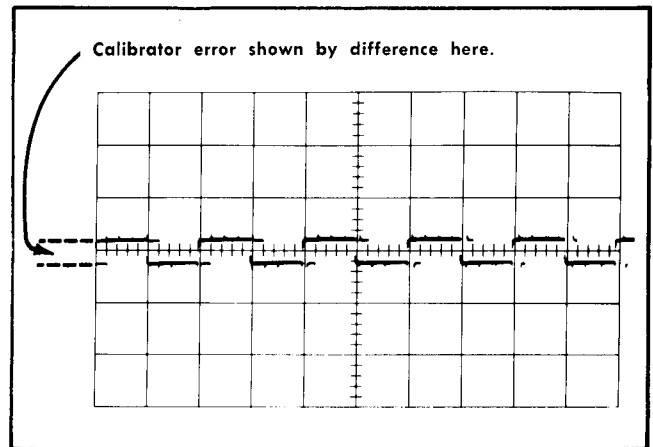

Fig. 5-19. Typical test oscilloscope display when checking amplitude accuracy of Calibrator (sweep rate, 0.5 millisecond/division).
x. Check—Difference between Calibrator output and standard amplitude calibrator output less than 1 division ($\pm 1\%$); see Fig. 5-19.
ab. Check—Difference between Type 453 Calibrator output and standard amplitude calibrator output less than 1 division ($\pm 1\%$); see Fig. 5-19.